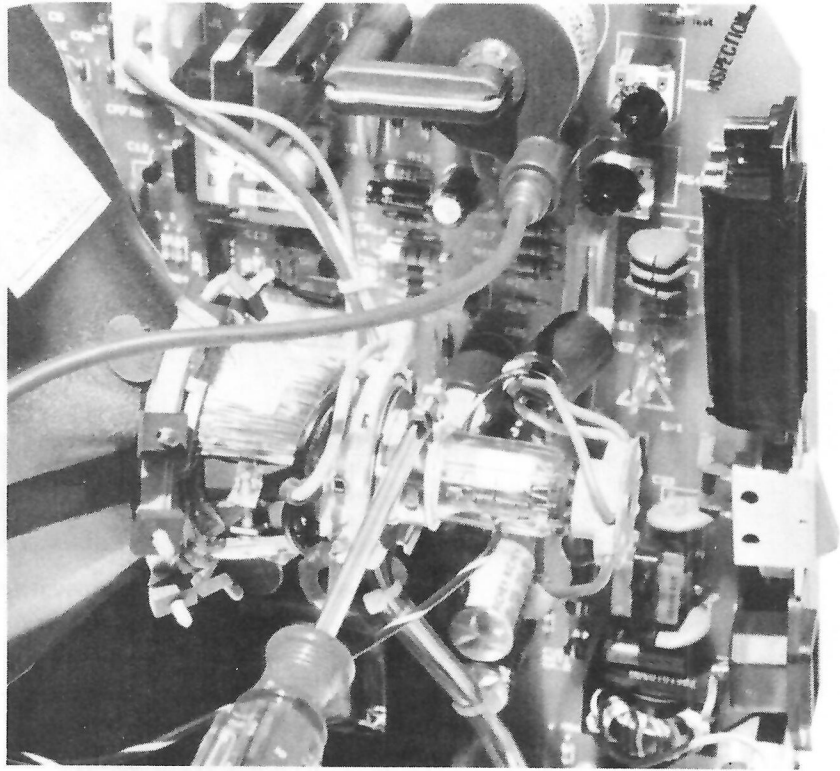

Figure 9-2 Yoke retaining screw—removal details.
8. As shown in Figure 9-2, loosen the yoke retaining screw with a #1 Phillips-head screwdriver. Alternately, you can use an $\frac{1}{8}$ -inch screwdriver or a $\frac{5}{32}$ -inch screwdriver. Pick one with a 4-inch shaft.